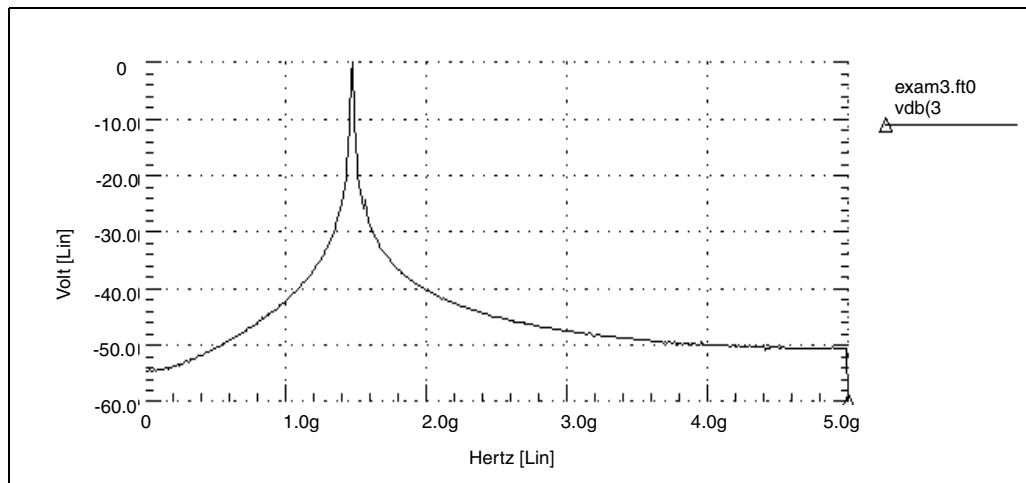
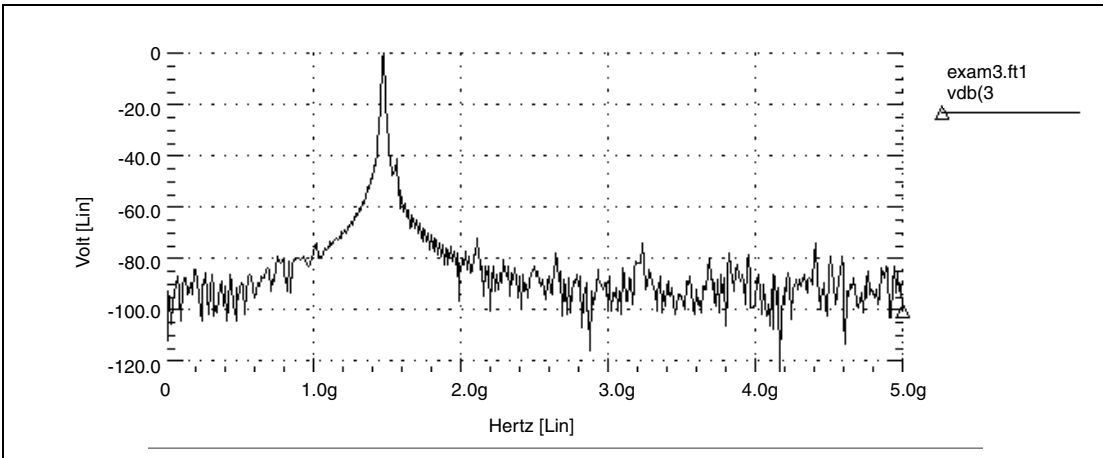
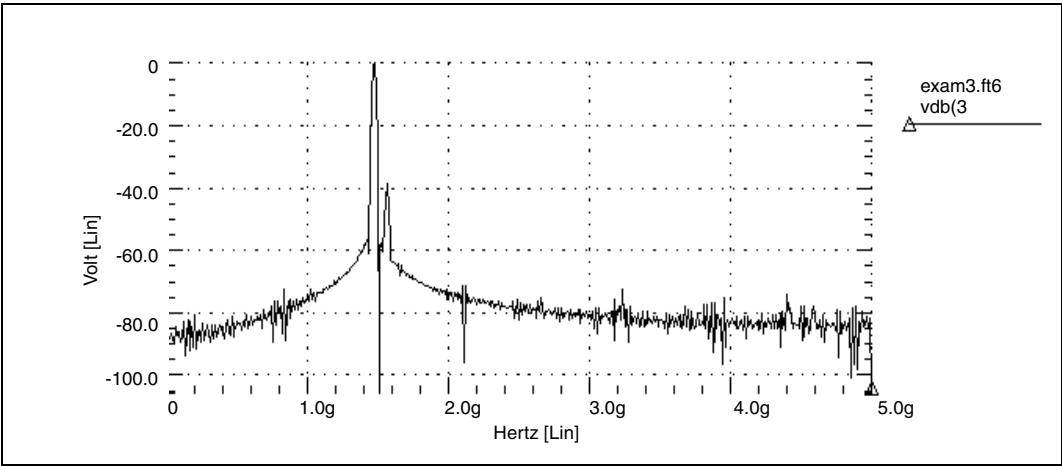
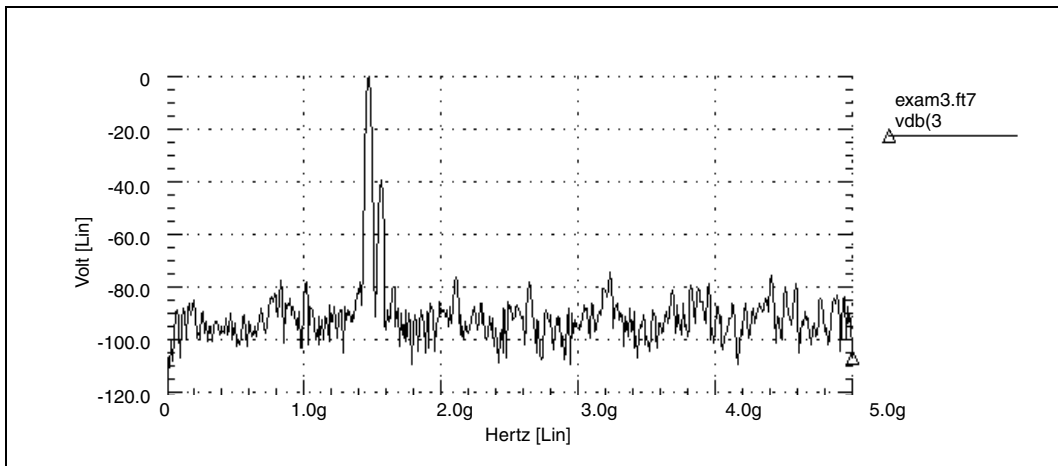

Figure 65 Mixer Output Spectrum, Rectangular Window
Figure 66 Mixer Output Spectrum, Bartlett Window
Figure 71 Mixer Output Spectrum, Gaussian Window
Figure 72 Mixer Output Spectrum, Kaiser-Bessel Window
Figure 65 shows the rectangular window. Compare this with the spectra of the output for all FFT window types, as shown in Figure 66 through Figure 72. Without windowing, HSPICE or HSPICE RF does not detect the weak signal because of spectral leakage.
- In the Bartlett window (Figure 66), the noise floor increases dramatically, compared to the rectangular window (from -55, to more than -90 dB).
- The final two windows (Figure 71 and Figure 72) use the `ALFA=3.0` parameter, which is the default value in HSPICE or HSPICE RF. These two windows also produce acceptable results, especially the Kaiser-Bessel window, which sharply separates the two tones, and has a noise floor of almost -100-dB.